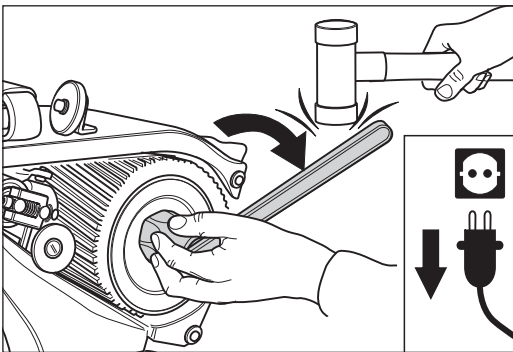

Fig. 79 Release the drum nut **clockwise (left-hand thread)**, if necessary by knocking gently with a soft hammer.
- 6** Open the drum nut by turning the box wrench (see tool kit) **clockwise (left-hand thread)** and unscrew the drum nut (Fig. 79).